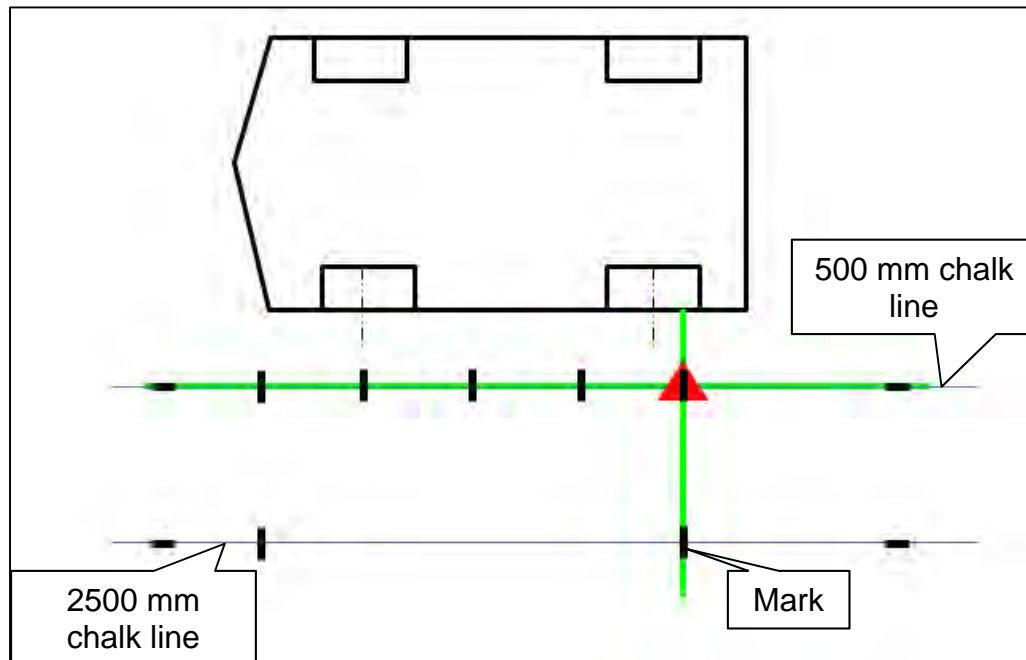

Figure 37
29. Move the laser level to the position shown in Figure 37, and then make a mark on the 2500 mm chalk line.